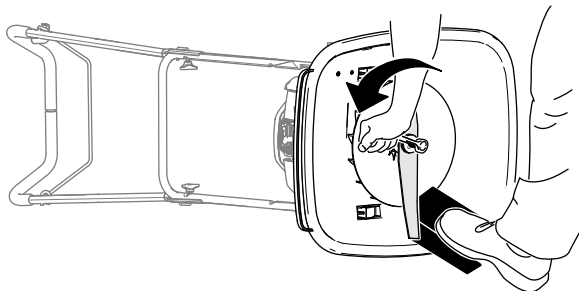

Figure 30
4. Use a block of wood to hold the blade steady (Figure 30).